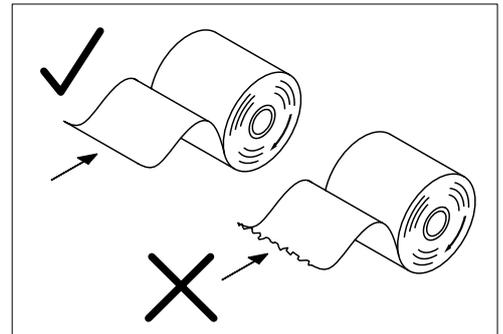

Fig. 2
5. Depending on the required use (receipt mode or journal mode), either tear off the paper at the tear-off edge of the printer mechanism or feed the paper onto the paper reel (the leading edge of the paper must be cut straight here, see Fig. 2).